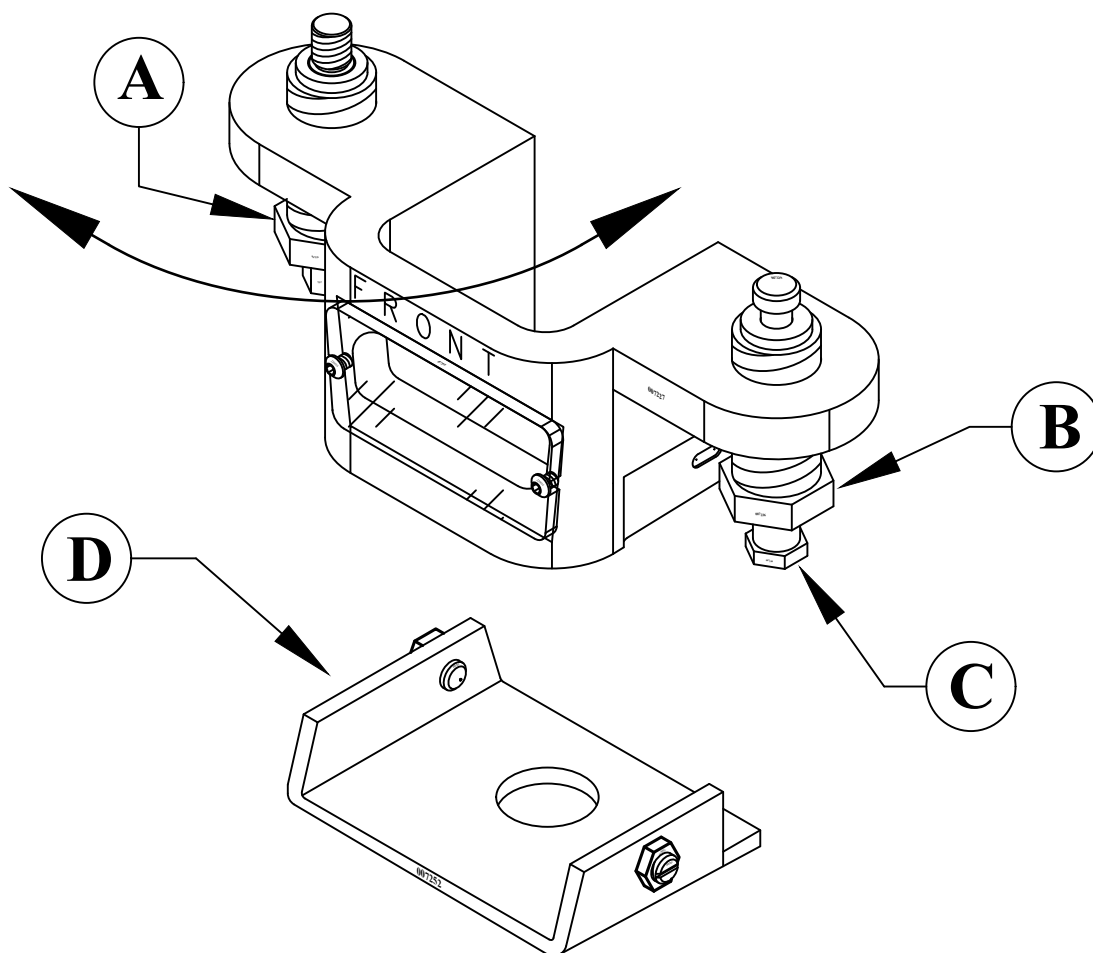

FIGURE 9
13. Insert the proper die in the die insert (E). (If the die has a flat spot in it, align this with the bolt in the die insert.) Tighten the bolt firmly with a wrench.
14. Insert the punch into the punch retaining nut (C). Make sure that it seats properly. Place the punch retaining nut assembly on the die insert, with the punch inserted in the die. Place the insert back in the die holder and tighten the two set screws (F). Make sure that the alignment pin in the insert seats in the hole in the die holder.
15. **Raise the punch retaining nut (C) and turn it on to the punch ram. (The die holder may have to be moved slightly to align the punch retaining nut to the punch ram.)**
17. **Use a wrench to tighten the punch retaining nut (C). Make sure that there is equal clearance on all sides of the punch in the die.**
18. **Re-tighten the bolts (B) in the die holder.**
20. **Return the stripper to the FORWARD position. (For stripper adjustment procedures, SEE FIGURE 9 ON PAGE 27.)**
D. PROPER ADJUSTMENT OF THE STRIPPER. (SEE FIGURE 9 BELOW.)
2. The stripper is opened by pushing up on item (C) and swinging it out toward the front of the machine.
3. If you are punching light material or pieces too small to contact both sides of the stripper, install the plate (D) on the bottom of the stripper.